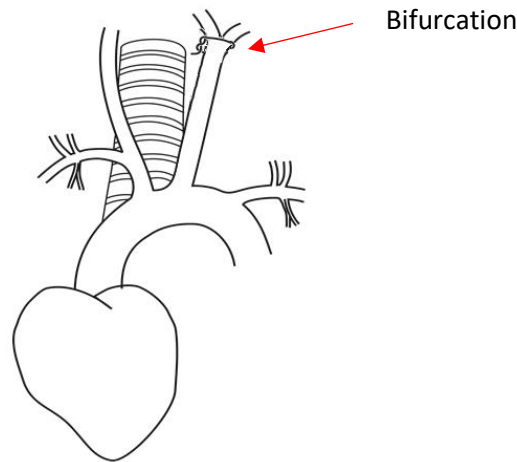

Figure 1: Suture tie placed at carotid bifurcation
- 7) Tie a piece of suture at the bifurcation. (See Figure 1)